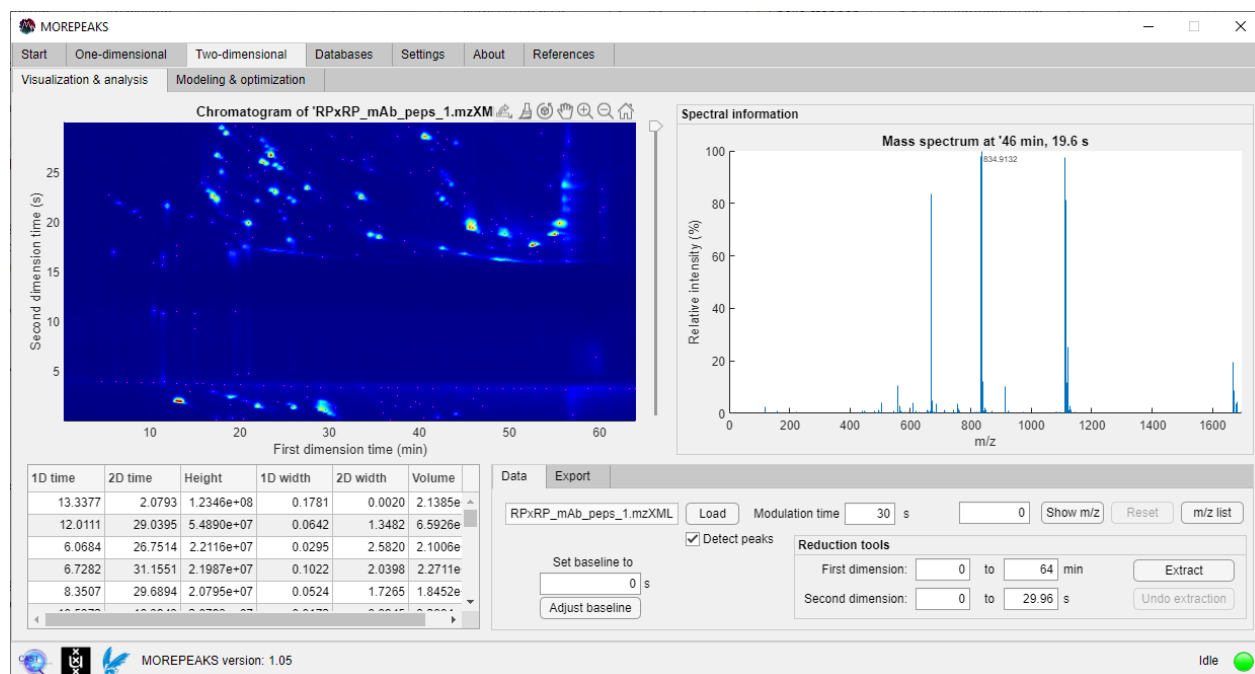

Figure 45. Two-dimensional “*Visualization & Analysis*” tab.
The “*Visualization & analysis*” tab in both 1D and 2D mode can be used to visualize chromatograms. Typically, data formats don’t change from LC to gas chromatography (GC). As typically it is time versus signal, or maybe MS data is present. Both formats however can be loaded into MOREPEAKS. This tab can therefore also be used to analyze GC(xGC) datafiles. When loading a 2D chromatogram, provide a modulation time in seconds in the “*Data*” tab in the bottom of the screen then press “*Load*” and select the correct file. For a 1D chromatogram, simply press the “*Load*” button. If mass data is present, on the right the “*Spectral information*” tab will be visible (Figure 45). Otherwise, the right side stays grayed out. Clicking on any point in the chromatogram will change the mass spectrum on the right side to the point where just has been clicked. When analyzing a 2D chromatogram, the intensity of the colors can be adjusted by the slider next to the chromatogram. Detected peaks will be shown in the bottom-left. When analyzing a 2D chromatogram, the intensity of the colors can be adjusted by the slider next to the chromatogram. Detected peaks will be shown in the bottom-left.